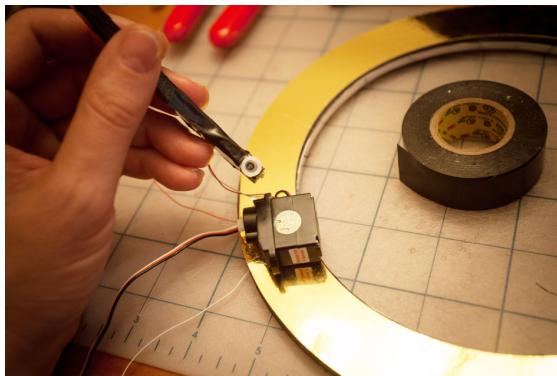

Figure 7-18 Detail of the opposite end of the elevation arc, the elevation servo and the azimuth ring
4. Position the sub-micro servo on the azimuth ring so that its shaft points outward 180° opposite from the elevation ring pivot (see Figure 7-18). The top of the shaft should be just flush with the outside of the azimuth ring so that it can serve to rotate one end of the elevation arc. Use hot glue if you're brave, or otherwise secure the servo to the azimuth ring using strong tape like duct tape or try electrical tape.